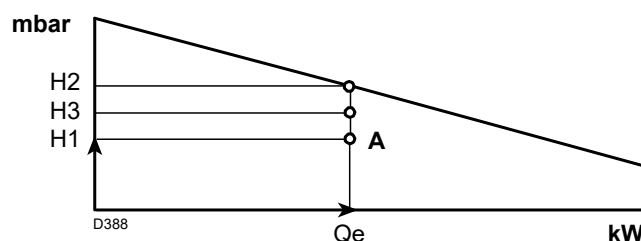

Fig. 3
- 4 Trace a vertical line from point A)(Fig. 3), and find the maximum pressure H2 of the firing rate.
If H3 is greater than H1)(Fig. 3), the burner can produce the delivery requested.